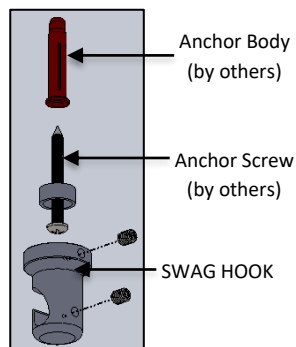
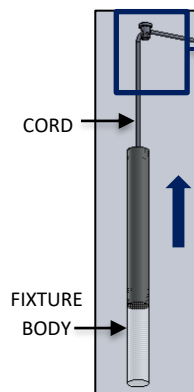

FIG. 10 – SWAG HOOK INSTALLATION
FIG. 11 – FIXTURE INSTALLATION
3. Attach the provided SWAG HOOK to the ceiling with ANCHORS (by others) as shown below in FIG. 10 and hang the FIXTURE CORD into the SWAG HOOK and adjust the desired height as shown in FIG. 11 and 12. See the final page of these instructions for several examples of how the hooks can be laid out. Carefully unroll GLOWSTICK BODY CORDS. Avoid kinking the FIXTURE CORD, kinking the CORD will damage it.